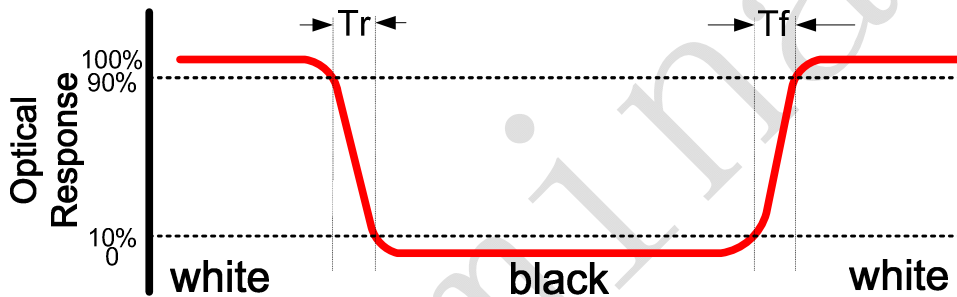

FIG.2. Measuring method for Contrast ratio, surface luminance, Luminance uniformity , CIE (x, y) chromaticity
Note 1. Contrast Ratio(Cr) is defined mathematically by the following formula. For more information see FIG 2.
Note 2. Surface luminance is the LCD surface luminance with all white pixels. For more information see FIG 2.
Note 3. The luminance uniformity is determined by measuring luminance at each test position 1 through 9, and then dividing the maximum luminance of 9 points luminance by minimum luminance of 9 points luminance. For more information see FIG 2.
- Note 5.** CIE (x, y) chromaticity, The x,y value is determined by measuring luminance at each test position 1 through9,and then make average value. For more information see FIG 2. The test equipment is CS2000.